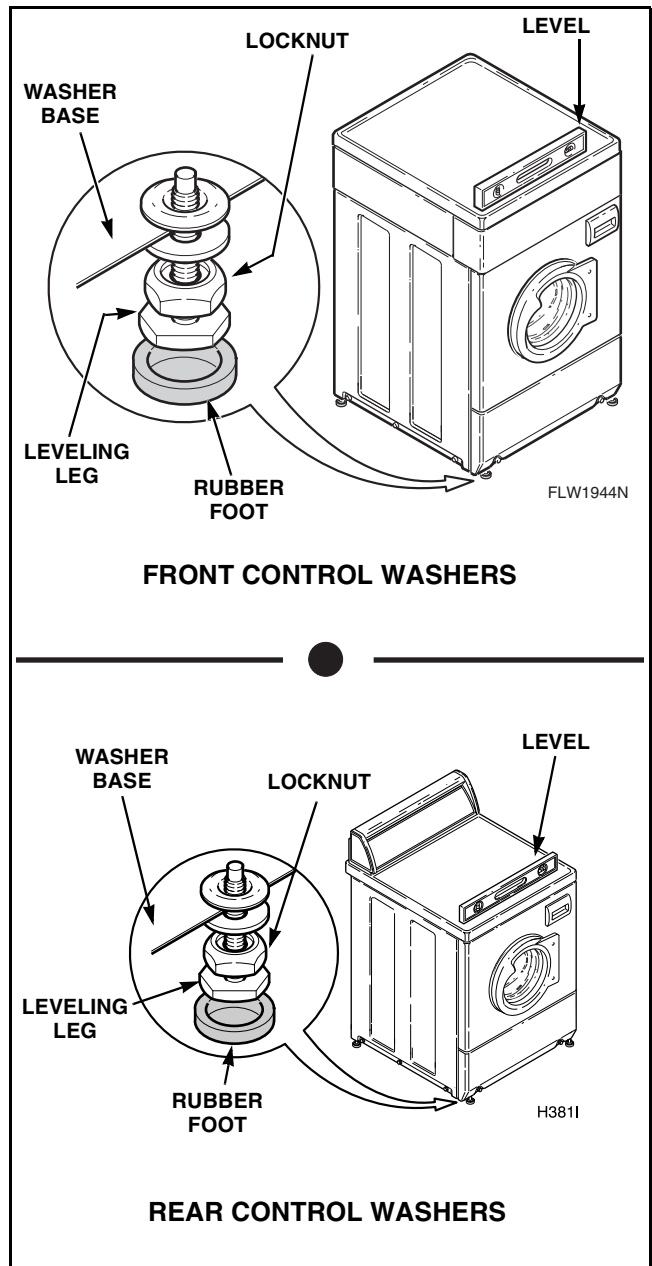

Figure 30
- Loosen locknuts and adjust the leveling legs until the washer **does not rock**. Refer to *Figure 30*.
NOTE: Level must rest on raised portion of top panel. Refer to *Figure 30*.
- Place rubber feet on all four leveling legs. Refer to *Figure 30*.